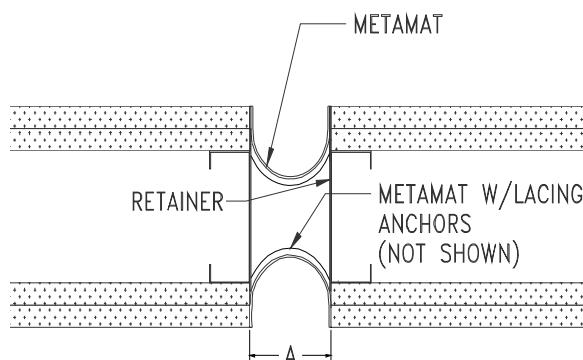

Figure 3
STEP 2. Select the fire barrier, back layer and corresponding front layer. Place them into their installed position in the joint so that the edges of the galvanized retainers and the front layer are flush with the surface of the wall and so that the fire barrier layers span the joint (Figure 3). Note that it may be necessary to fold, without creasing, the layers of MetaMat together with one another.